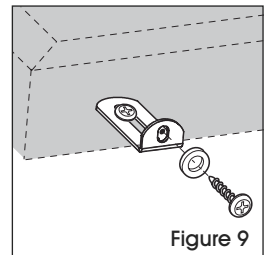

Figure 9
5. Hang board and insert 1/4" screw and washer through each L-Bracket and into predrilled hole in frame. Tighten firmly. (See Figure 9)